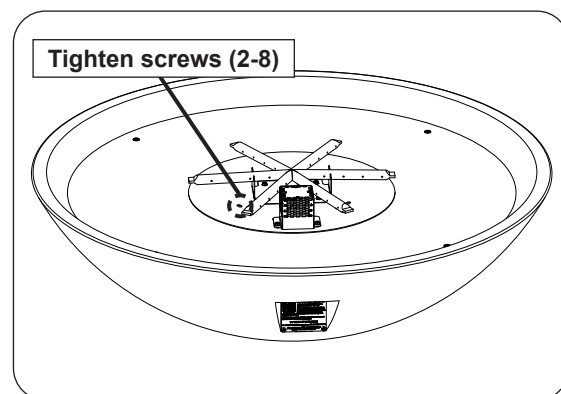

Fig. 33-3 Secure burner
2. Use a 5/16" nut driver to fasten the burner to the base (see Fig. 33-3).